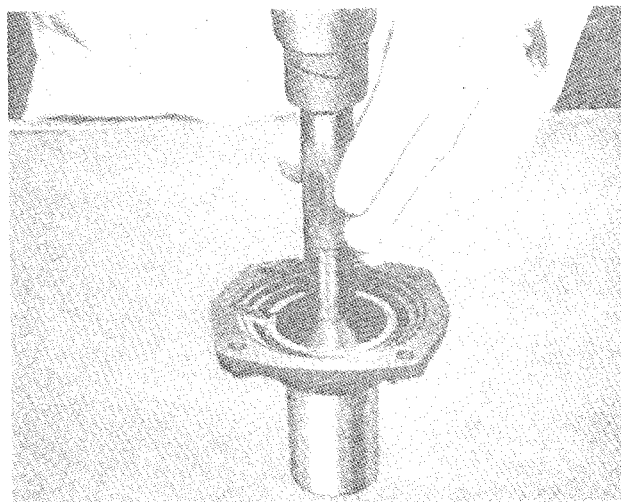

**Fig. 26** Fitting Extension Housing Oil Seal with Churchill Tool No. 20S. 87.
- (r) Locate gearbox extension oil seal as shown in Fig. 26.